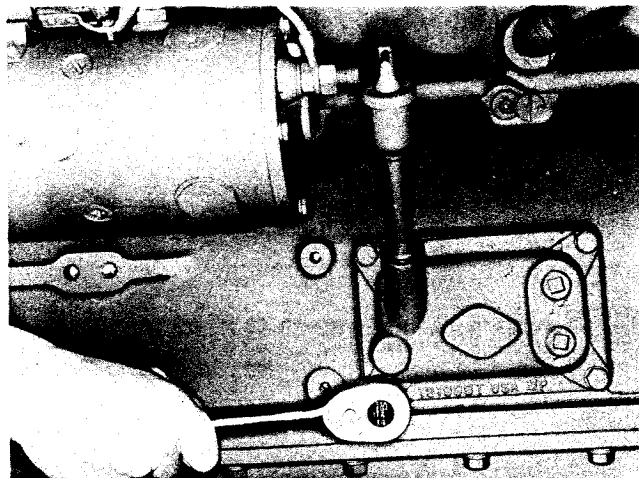

Fig. 0-2, (N10073). Removing oil gauge bracket
1. Remove cap screws and lockwasher securing bracket to block. Fig. 0-2.